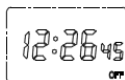

Figure 9
6.2.2.1 Press button “MD” for 3s to cancel the keyboard lockout, so that “LOCK” may disappear, the current “min” position flashes, you can press “◀” to select the adjusted position and press “△” and “▽” to plus and minus, so as to adjust the display time to the current time, see Figure 9.